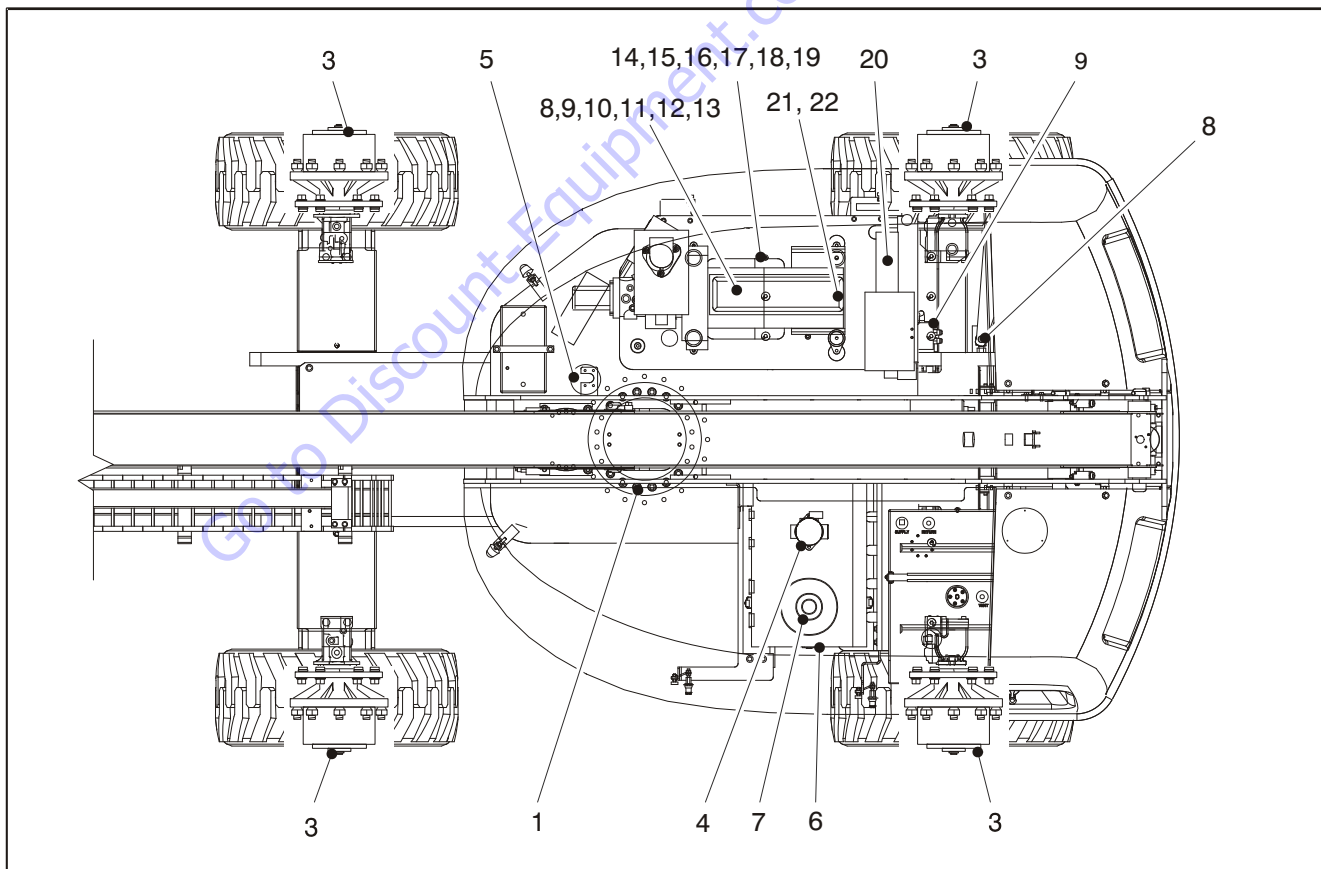

Figure 1-2. Operator Maintenance and Lubrication Diagram
**NOTE:** The following numbers correspond to those in Figure 1-2., Operator Maintenance and Lubrication Diagram.